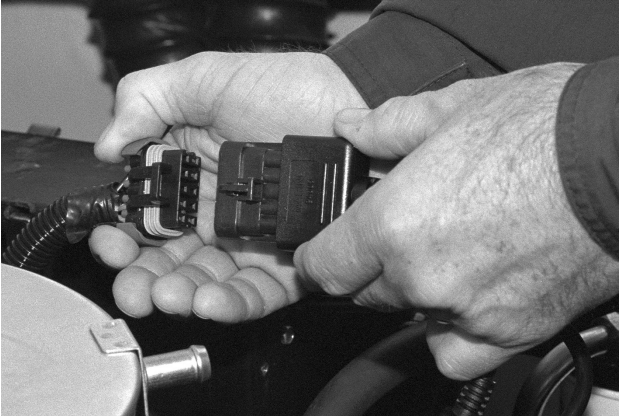
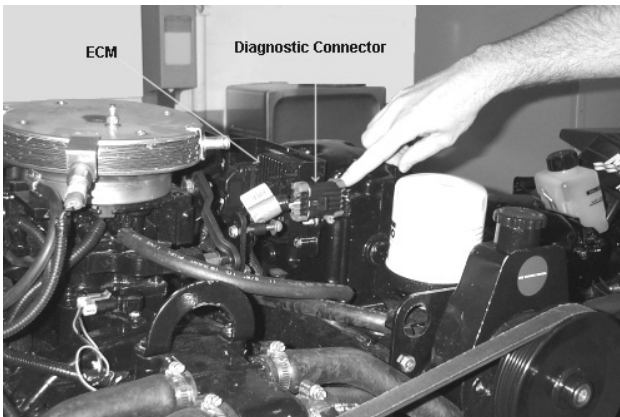

Figure 4 GM EFI Diagnostic Link Connector (DLC)
Figure 5 Connector with protective cap attached
- 1) Locate the engine's 10 pin marine diagnostic link connector (DLC). The location of this connector is specified in the engine manufacturer's service manual. Please be aware that the connector may have a protective cap attached to it. Examples are shown in Figure 4 and Figure 5 below.